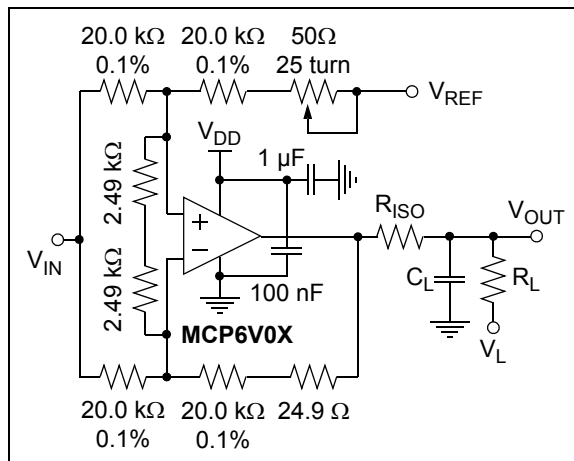

FIGURE 1-7: Test Circuit for Dynamic Input Behavior.
- Note 1:** These parameters were characterized using the circuit in Figure 1-7. Figure 2-37 and Figure 2-38 show both an IMD tone at DC and a residual tone at 1 kHz; all other IMD and clock tones are spread by the randomization circuitry.
The circuit in Figure 1-7 tests the op amp input's dynamic behavior (i.e., IMD, t_{STR} , t_{STL} and t_{ODR}). The potentiometer balances the resistor network (V_{OUT} should equal V_{REF} at DC). The op amp's common mode input voltage is $V_{CM} = V_{IN}/2$. The error at the input (V_{ERR}) appears at V_{OUT} with a noise gain of 10 V/V.